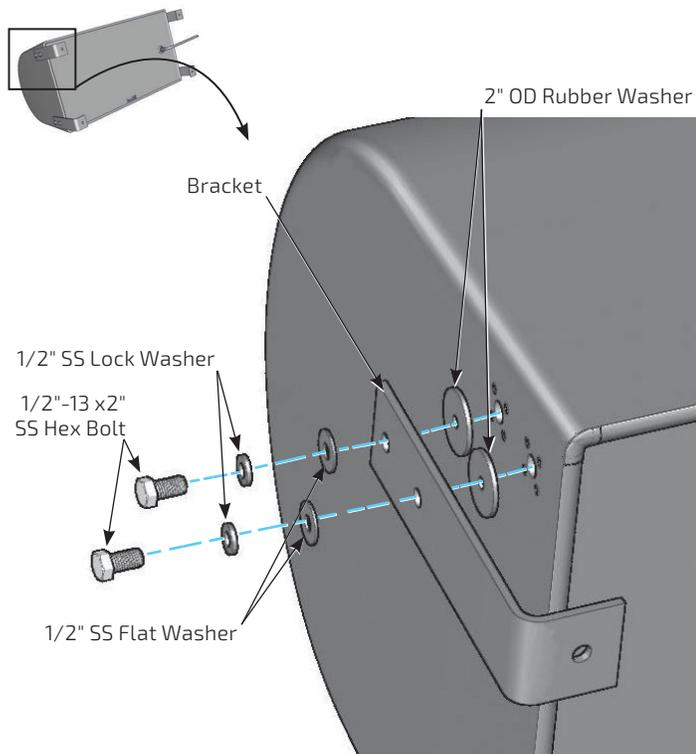

Figure 6. Bracket attachment to subwoofer
□ If it is necessary to remove the leg brackets from the subwoofer, reserve the hardware and reattach the leg brackets as shown in Figure 6.